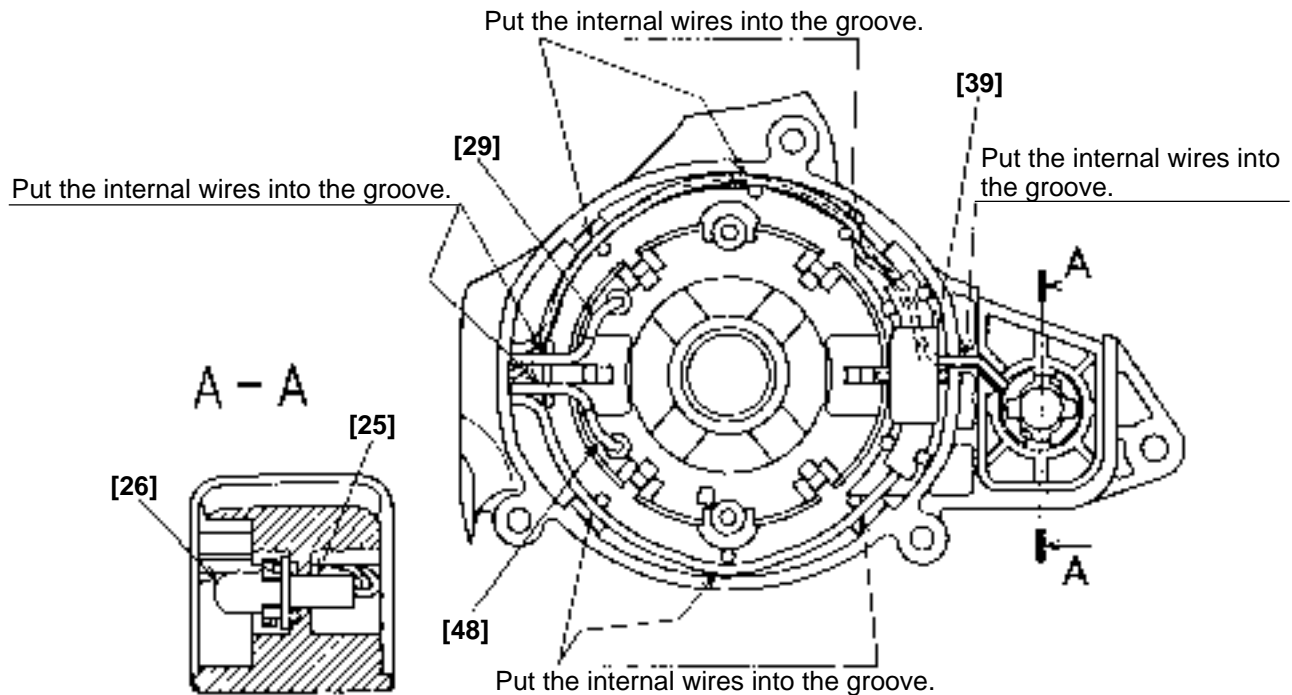

Fig. 6
(8) Internal wire arrangement (See Figs. 6 and 7.)
Connect internal wires as illustrated in Figs. 6 and 7. At this time, ensure that none of the wires are pinched between components during reassembly. Mount the Knob (off-lock lever) [37], Terminal (A) [36] and Spring (F) [35] without fail.